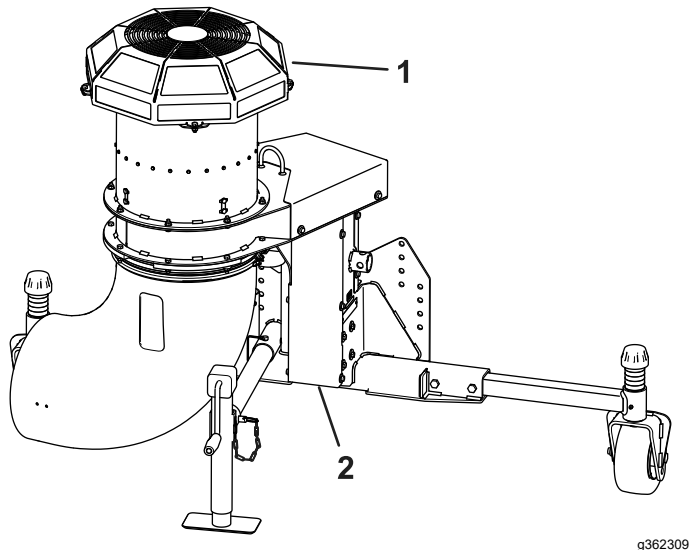

Figure 19
**Important:** Do not operate the machine without the fan guard and gear-case guard in place (Figure 19).